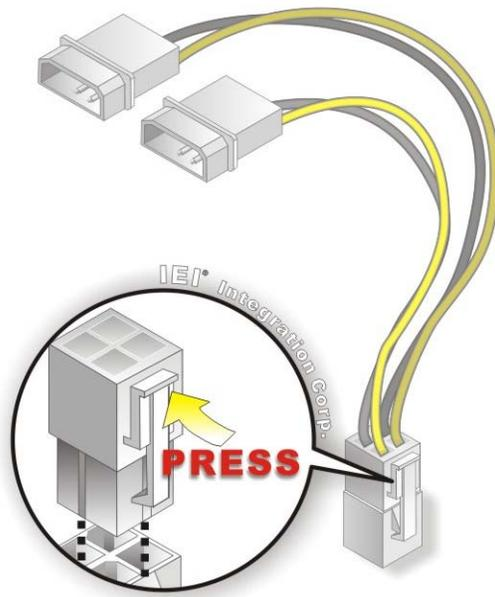

Figure 4-12: Power Cable to Motherboard Connection
Step 2: Connect the Power Cable to the Motherboard. Connect the 4-pin (2x2) Molex type power cable connector to the AT/ATX power connector on the motherboard. See Figure 4-12.